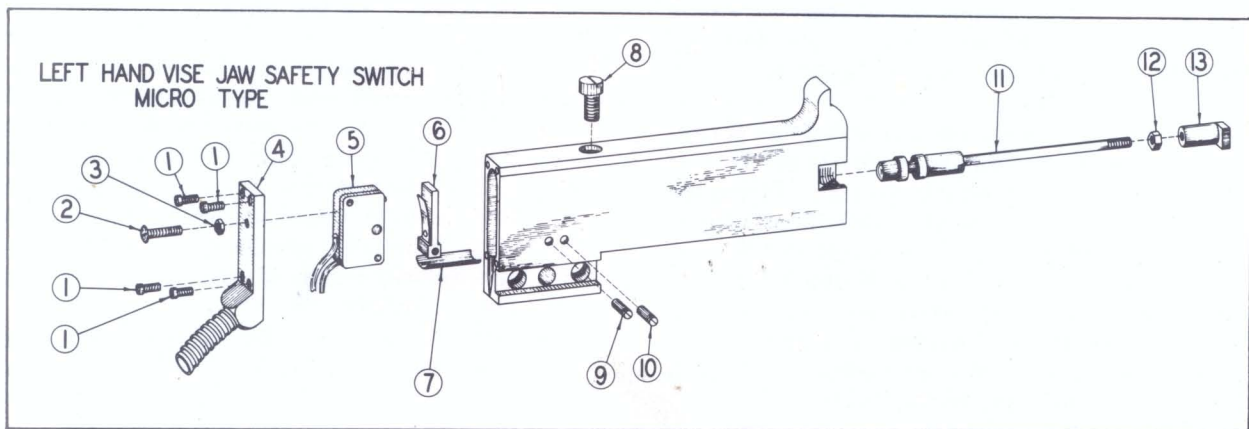
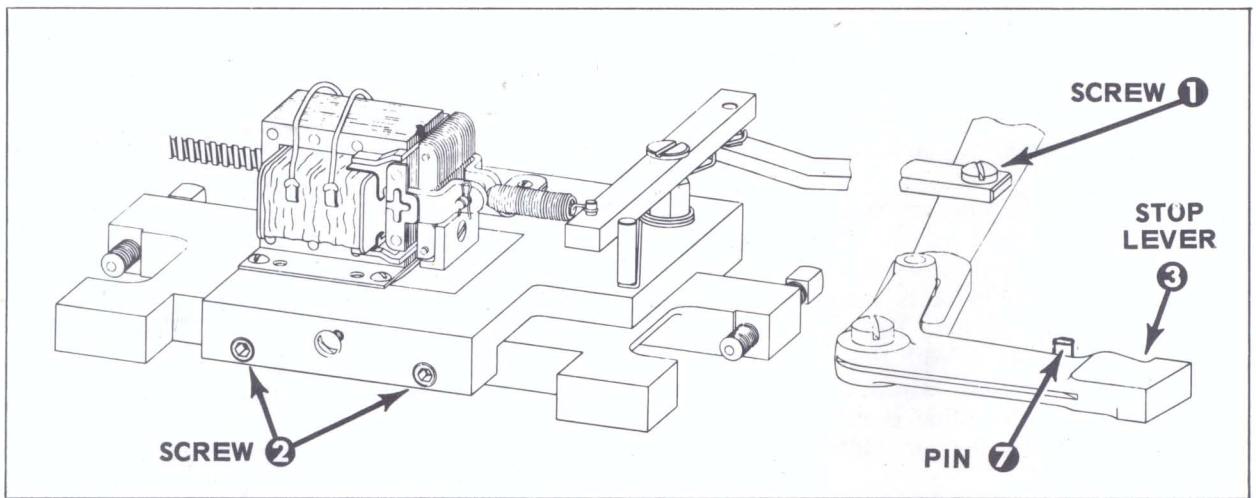

FIGURE 6
FIGURE 7
THE ELECTRO PUMP STOP SAFETY ADJUSTMENT OF THE L.H. VISE JAW SAFETY SWITCH (See Figure 6)
REPLACEMENT OF L.H. VISE JAW SAFETY SWITCH (See Figure 6)
Remove screw (1) from right hand end of operating lever. (Figure 7) Loosen two Allen screws (2) on the bracket and unit can be lifted from machine for cleaning or servicing.
To adjust — press the switch operating rod (13, Figure 6) in the left hand vise jaw, which closes the solenoid. Then adjust by sliding the entire solenoid and bracket unit back and forth until the stop lever (3, Figure 7) clears the stop block on the pot pump lever. Tighten the two Allen screws and recheck clearance. While this adjustment is not critical, care should be exercised to prevent excessive motion of the stop lever, so it does not strike the stop pin (7) on the pump stop bracket. The solenoid must close completely, or a hum and damage will occur.
The Electro-Pump Stop consists of the left hand vise jaw, containing a microswitch and its adjusting mechanism, and a solenoid with its mechanism for the operation of the pot pump stop lever. (See Figures 6, 7, and 8)